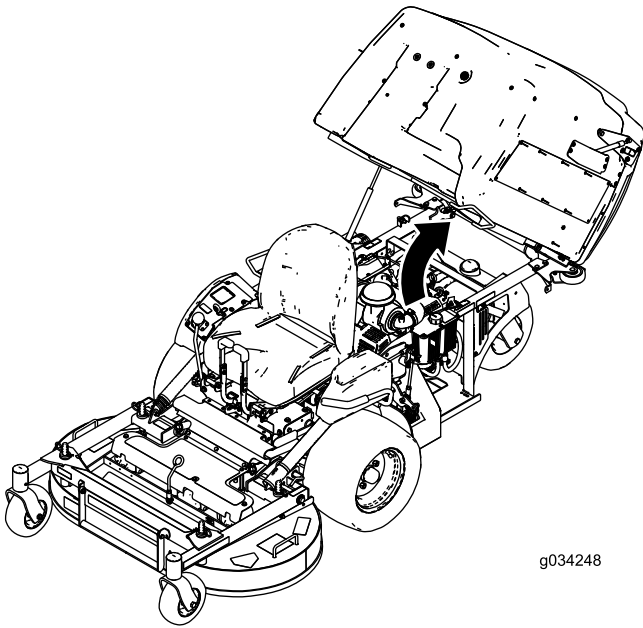

Figure 30
2. Raise up the hopper (Figure 30).